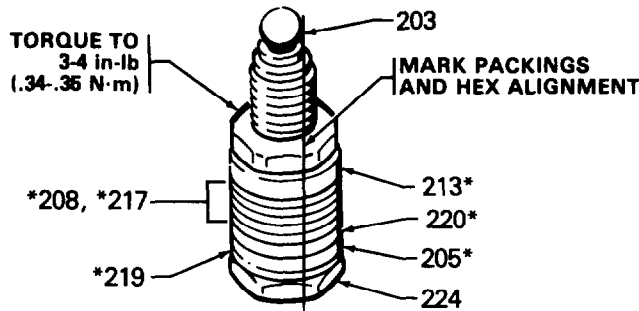

Fig 11
1. Check the outside of the piston rod (223) and the inside of the cylinder (216) for scoring or scratches. If the parts are damaged, new packings will not seal properly. Replace these parts if needed.
2. Stack the backup washer (219*), wiper (205*), female gland (220*), packings (217*, 208*) and male gland (213*) onto the piston valve. See Figures 11 & 12.
3. Tighten the packing retaining nut (214) onto the piston valve (224) and torque to 3 to 4 in-lb (0.34 to 0.35 N·m) — about finger tight.
4. Use a pen to make a light mark on the packings where they align with one of the flats on the nut. See Fig 11.